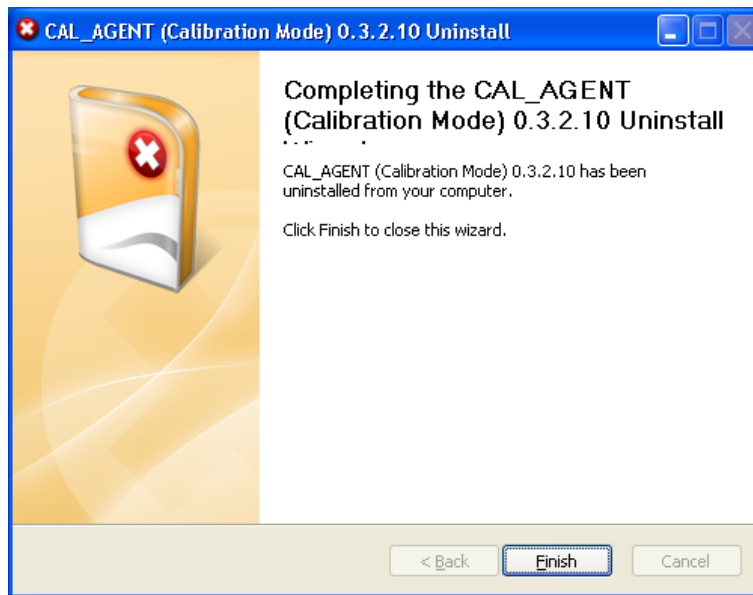

Figure 2-43: Completing the Uninstall Wizard
5. In the *Completing the Uninstall Wizard* window shown in Figure 2-43, click **Finish**.